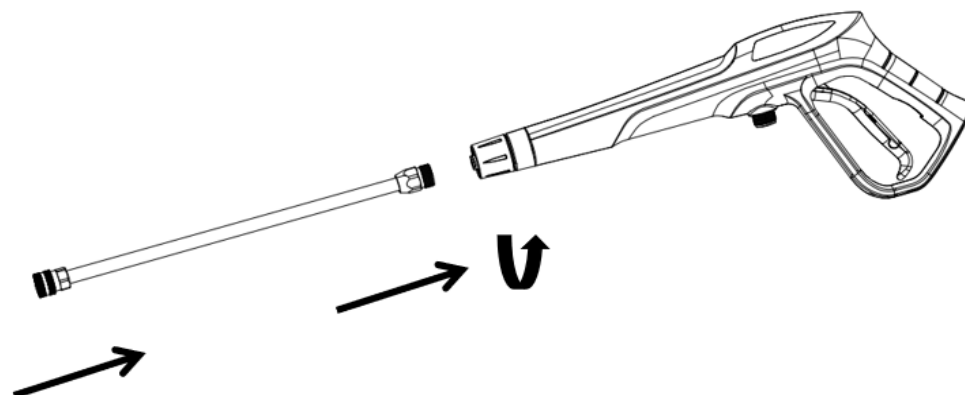

Figure 4: Lance Connect
2. Connect the lance to pressure gun. See figure 4.